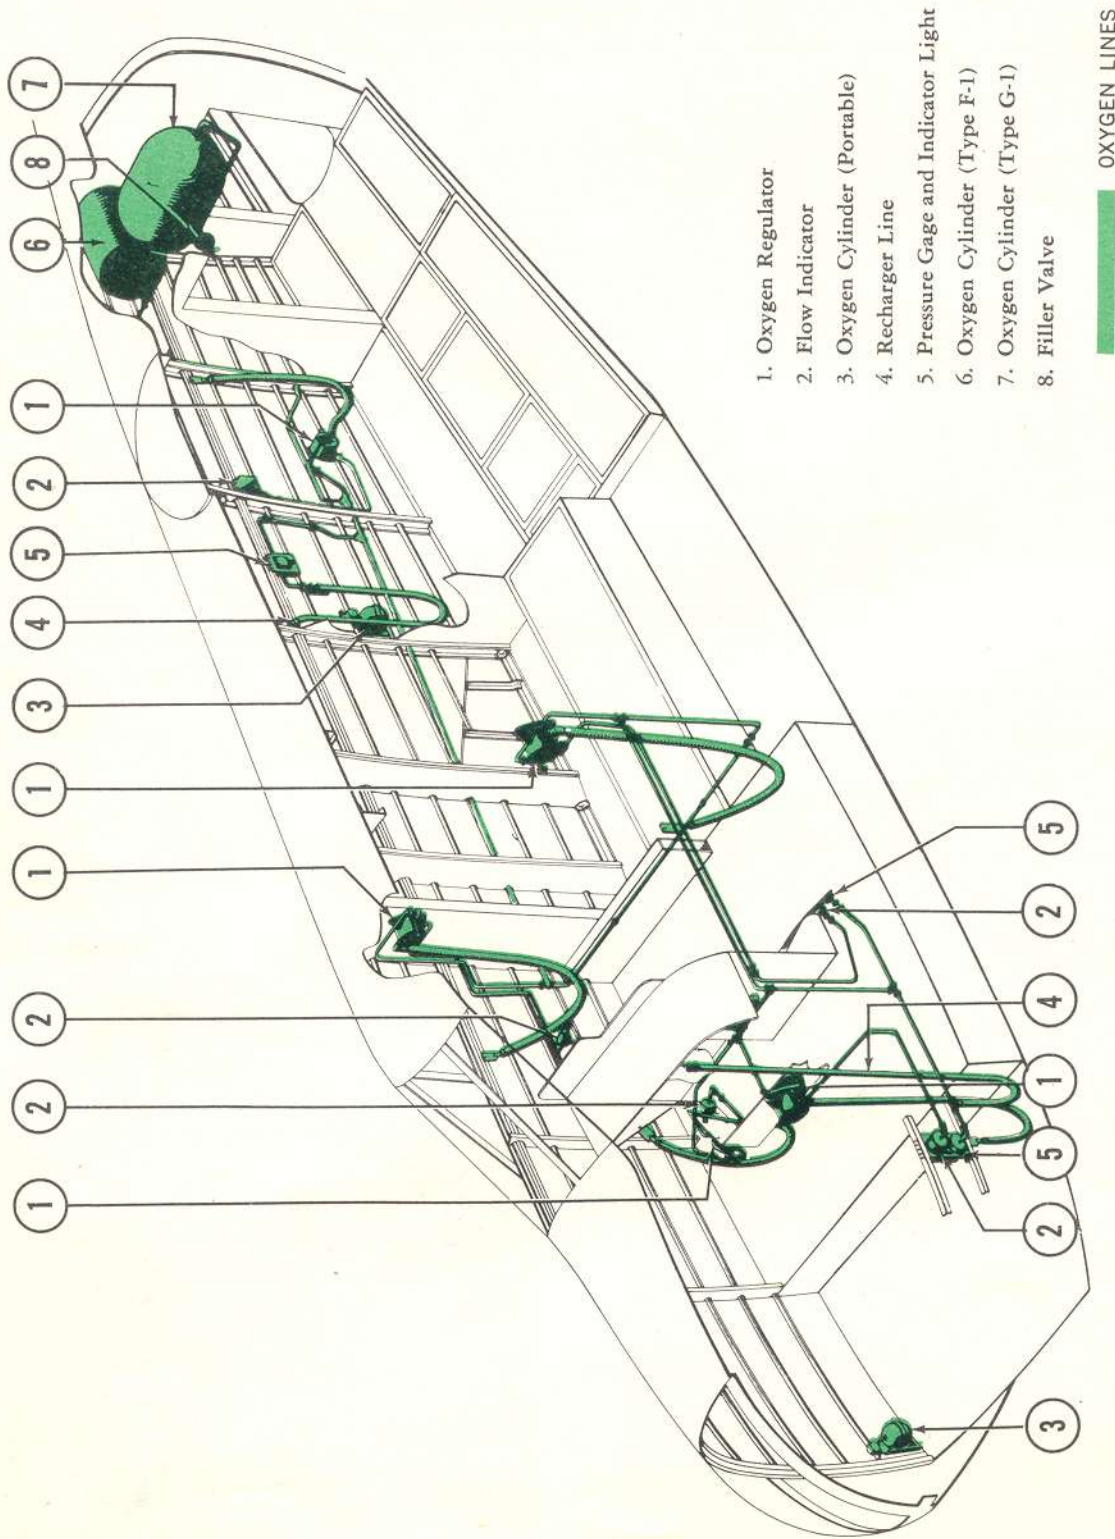

Figure 7—Low-Pressure Oxygen System
(2) **LOW PRESSURE SYSTEM.** (See figure 7.)—On airplanes Army serial No. 42-37694 and after, a **LOW-PRESSURE** oxygen system is installed, which provides oxygen for five people but has a different arrangement of regulators and oxygen bottles. Two supply tanks are located in rear gunnery compartment above the door. Two portable supply tanks, to be used when it is necessary to go from one station to another at altitudes requiring use of oxygen, are provided. One is on right side of cabin between navigator's station and bomb bay, the other to right of bombardier's compartment. Navigator's regulator is directly in front of his seat on right side of cabin. Pilot's and copilot's regulators are located on the bulkhead directly behind and to outboard of their respective seats. Instructor's regulator is located on extreme right side of the guard rail